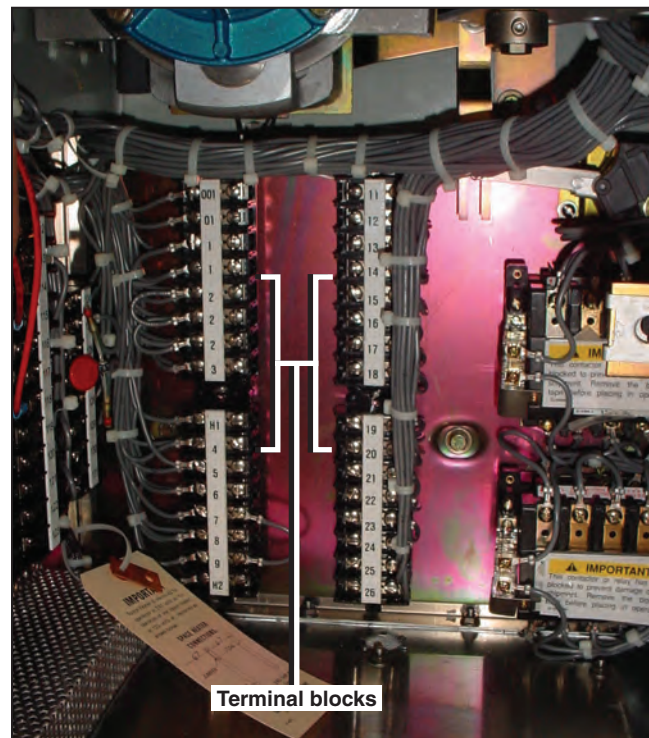

Figure 49. Connect external control-circuit wiring.
**STEP 4.** Connect the external control-circuit wiring (including space-heater source leads) to the terminal blocks of the switch operator in accordance with the wiring diagram furnished. See Figure 49.